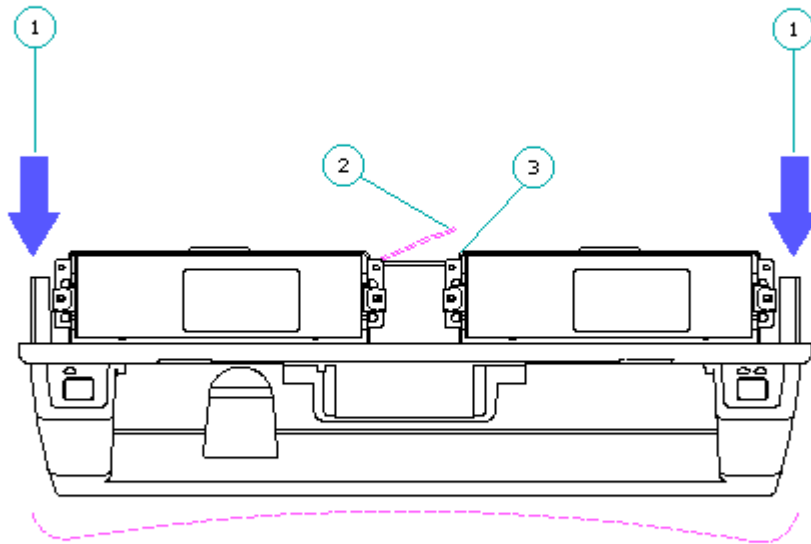

Figure 9-36. Installing the Other End of the Drive Cage Spacer
7. Flex the top cover of the expansion base downward [1] to slightly widen the gap between the drive cages (Figure 9-36).
8. While the top cover is flexed, place the other end of the drive cage spacer [2] into the slot on the other drive cage [3], and release the tension on the top cover (Figure 9-36).